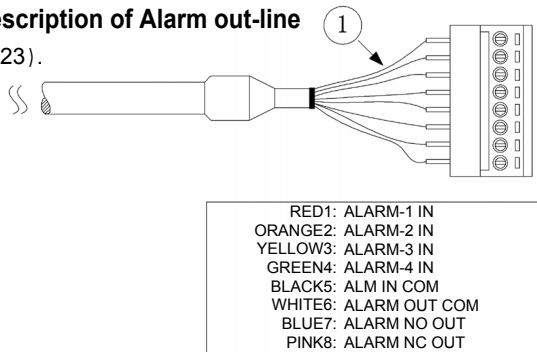

Figure 23
- 2 **The description of Alarm out-line** (Figure23).